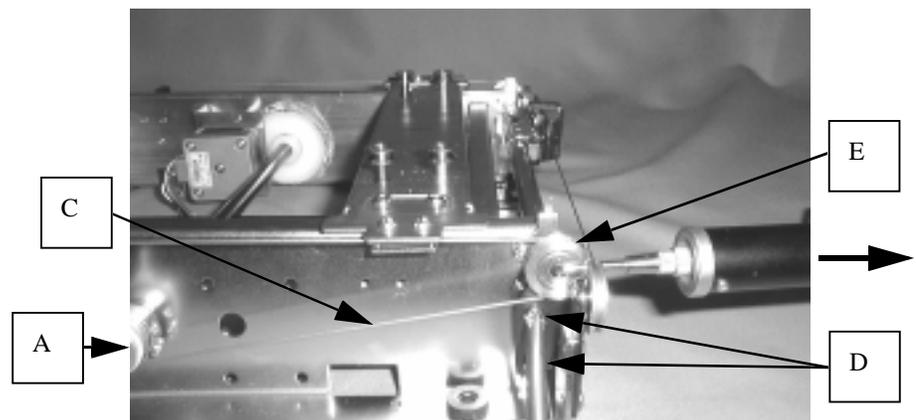

FIGURE 14-9
18. Fix setscrew (D) temporarily while applying wire (C) to wire pulley (E) as shown in Fig. 14-9.
19. Cut grip band(B) with due care so as not to scratch the wire. Pull the wire pulley (E) by means of spring balance with about 7Kgf in the arrow direction as shown in Fig. 14-9, and tighten setscrew (D).
20. Turn pulley (A) clockwise and counterclockwise several times by hand, and check the wire (C) for normal tension. If the wire (C) tension is not suitable, pull the wire pulley (E) again.